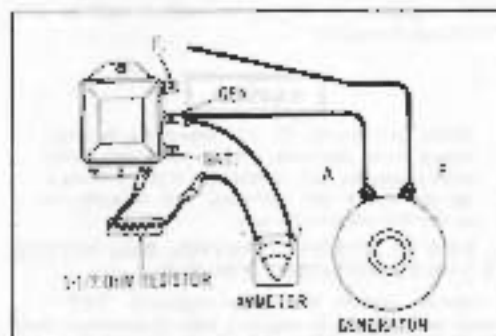

Figure 51-5.
A. TESTING THE GENERATING SYSTEM (FIG. 51-5)